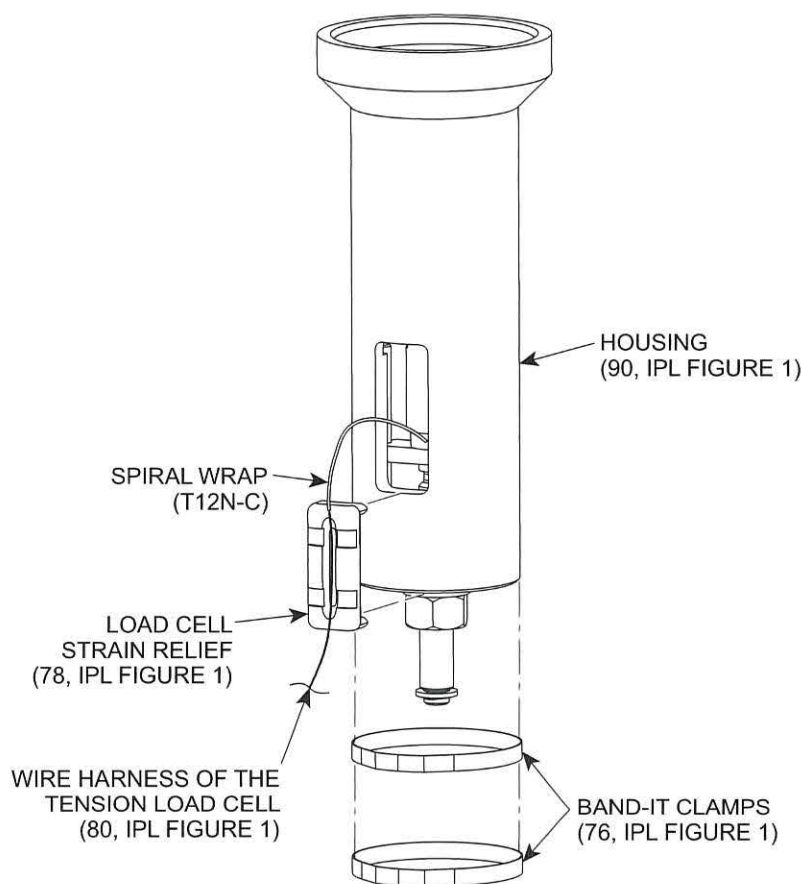

Figure 2-6. Installation of Load Cell Strain Relief
- (10) If removed, put Spiral Wrap, P/N T12N-C on the wire harness of the tension load cell (80) to a length of 6.5 to 7.5 inch (165.1 to 190.5 mm) starting from the tension load cell (80) end.
- (11) Make a service loop and put the wire harness of the tension load cell (80) through the load cell strain relief (78).
- (12) Put the load cell strain relief (78) in correct position on the housing (90). See Figure 2-6.
- (13) Use the Band-It Tool, P/N C00269 to attach the load cell strain relief (78) and the wire harness of the tension load cell (80) to the housing (90) with two band-it clamps (76).